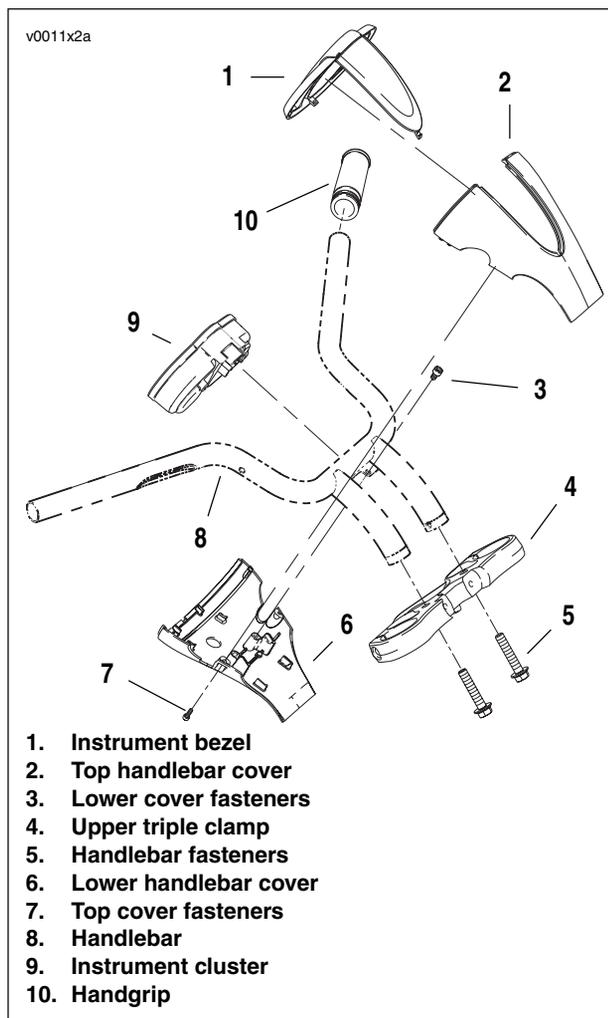

Figure 2-62. Handlebar Assembly
11. See Figure 2-62. Without removing cover, remove fasteners (7) holding top handlebar cover (2) and instrument bezel (1) to lower handlebar cover (6).
See Figure 2-62. Snap and hook at bottom of bezel holding top cover to lower handlebar cover can be damaged if forced during removal or installation.
1. See Figure 2-62. Mount handlebars (8) on upper triple clamp (4). Tighten handlebar fasteners (5) to 41-47 Nm (31-35 ft-lbs).
2. Mount lower handlebar cover (6) to handlebar (8). Tighten fasteners (3) to 6-10 Nm (53-88 in-lbs).
3. Mount instrument cluster (9). Connect wiring harness to instrument cluster.